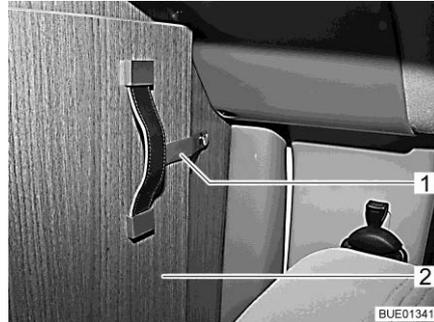

Fig. 52 Securing strap
- Release the securing strap (Fig. 52,1) from the foldable section of the driver's cabin partition (Fig. 52,2).